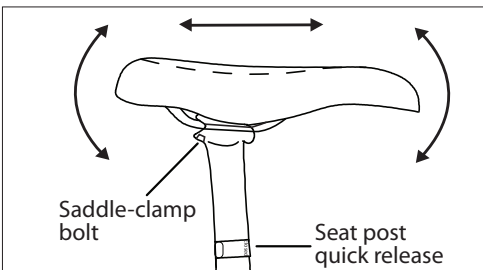

Fig. 50: Saddle bolts and adjustments.
- Decrease the tightness of the saddle-clamp bolt (Fig. 50) until the saddle can be moved.